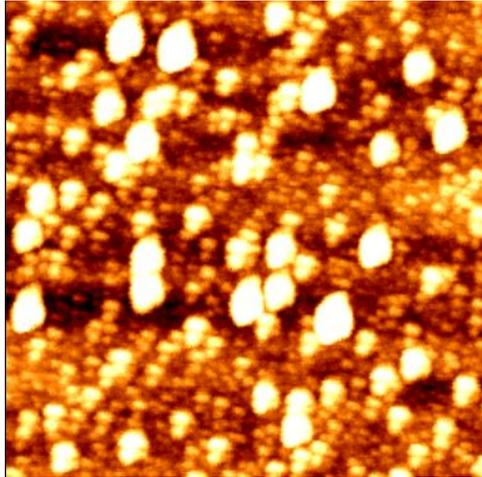

Fig.9
- (1) In the XEI, open a data file “c:\spmdata\Examples\example3.tiff”.
- (2) In this example, the data was flattened once according to the Step (4) of Example 2. Some dark shadows (regions with lower height) are seen near some large and tall particles as shown in Fig. 9.